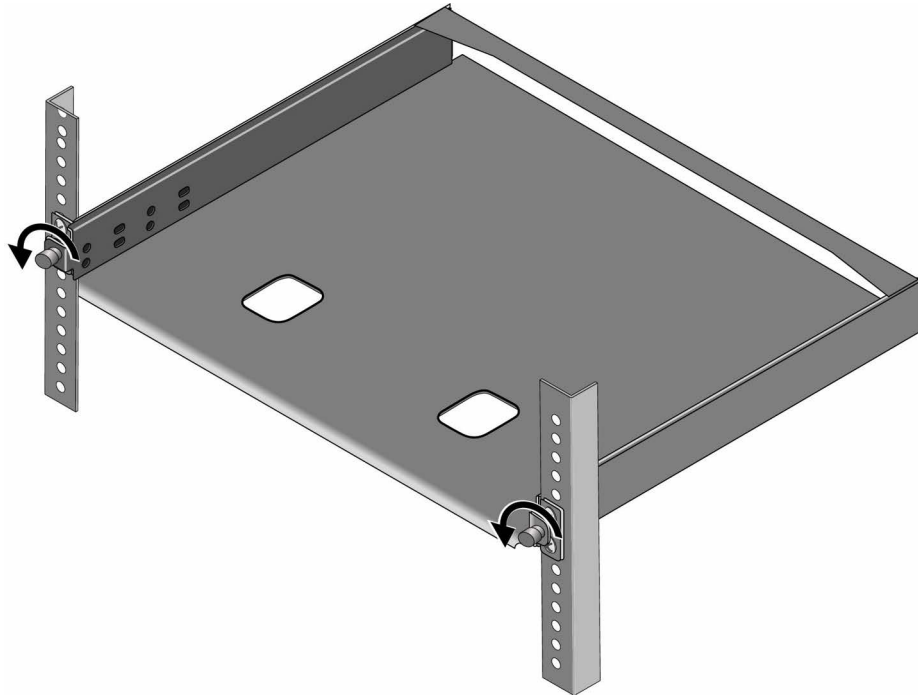

Figure 33. Loosening the Two Thumbscrews on the Front of the RKMT-J15 Tray
4. Loosen the two thumbscrews on the front of the tray. See Figure 33 on page 68.